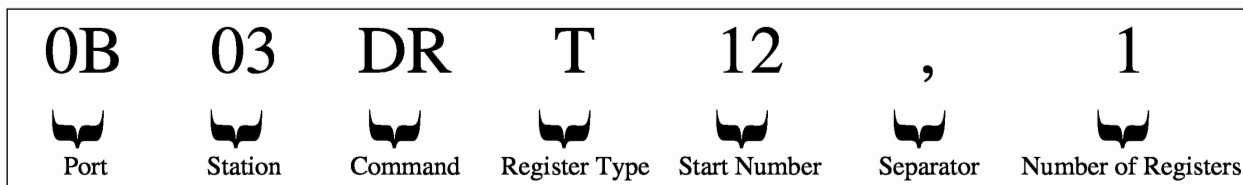

Figure 3-41 Example 3 of Remote Variable Address
**Note 3:** Example in figure 3-41 shows a 'Device/Register Read' command issued to an EX2000 device to read Timer Register 12.